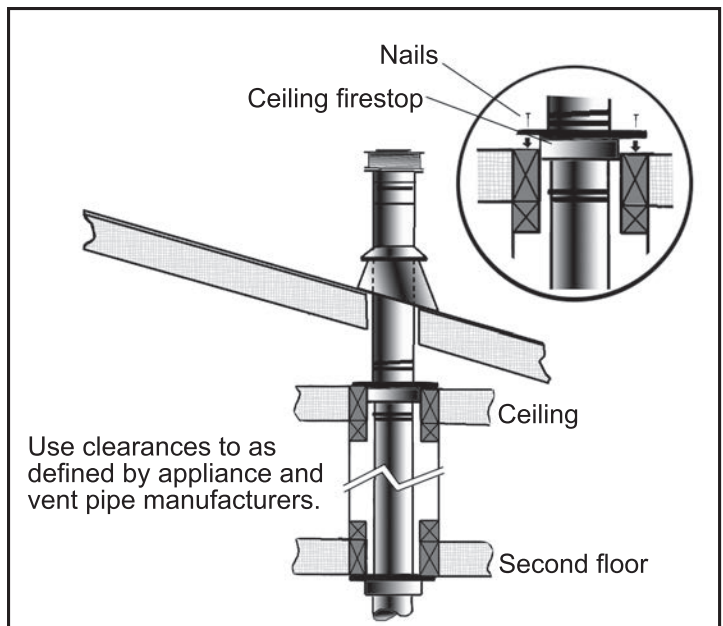

**Figure 31: Use of Wall Straps.**
- (1) If an offset is necessary in the attic to avoid obstructions, it is important to support the vent pipe every 3 feet (914 mm), to avoid excessive stress on the elbows, and possible separation. Wall straps are available for this purpose (see Figure 31).
- (2) When ever possible, use 45° degree elbows instead of 90° degree elbows. The 45° degree elbow offers less restriction to the flow of flue gases and intake air.